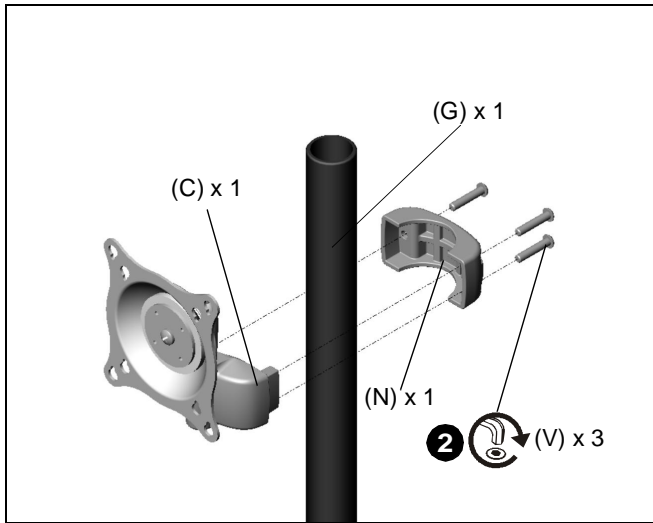

Figure 4
1. Place front pole clamp with Centris Head (C) against pole (G) in approximate mounting location.
2. Place three 1/4-20 X 1 1/4" button head cap screws (V) into rear pole clamp (N) and place against pole aligning with front pole clamp on Centris Head (C). (See Figure 4)
4. Secure rear pole clamp (N) to Centris head's front pole mount (C) and pole (G) by tightening three button head cap screws (V) using 5/32" hex key (J). (See Figure 4)
6. Add pipe cap (Y) to top of pole (F or G).